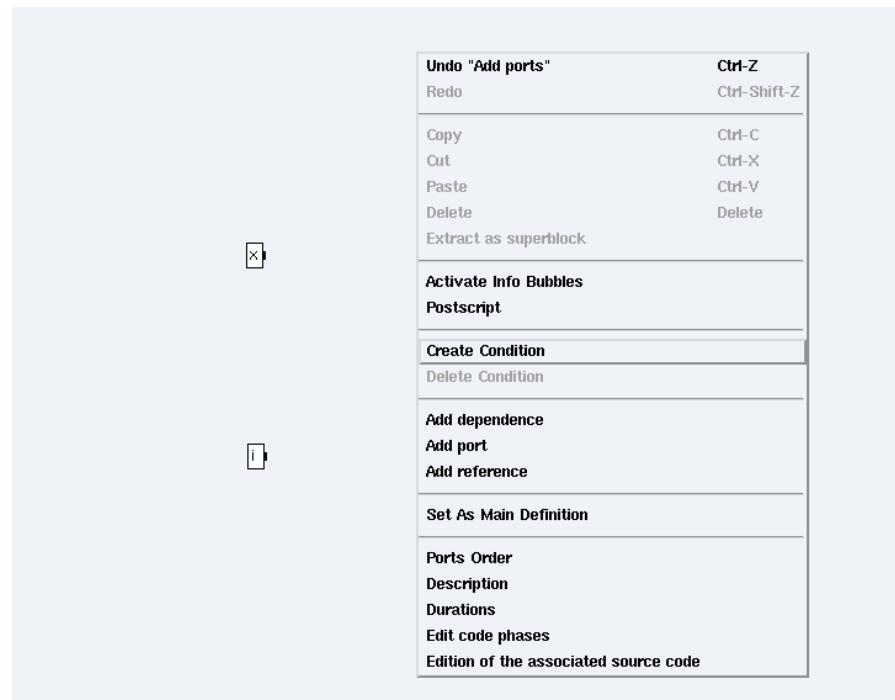

Figure 5.1: Create Condition
- contextual menu → **Create Condition** → dialog window: `x=1 x=2 x=3 x=4` (*cf. figure 5.1*):